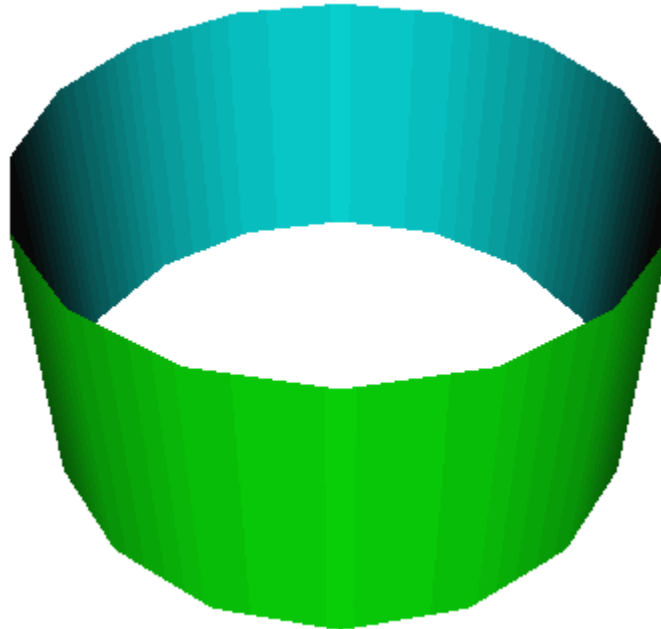

Figure 12.1 — Effects of different material properties on front and back sides of the geometry
- Figure 12.1 — Effects of two-sided materials on geometry
The *TwoSidedMaterial* node provides a way to render the front and back sides of the polygon with different material properties. Figure 12.1 depicts the effects of the *TwoSidedMaterial* node.
Figure 12.1 depicts example effects of the Appearance field *backMaterial* node.